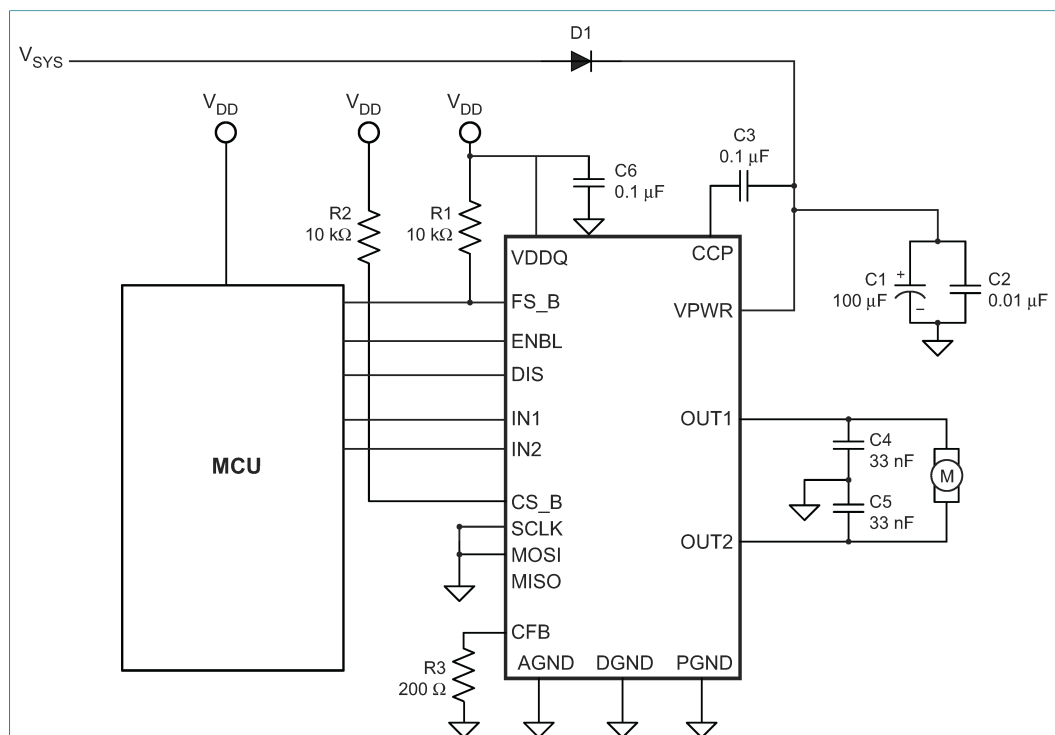
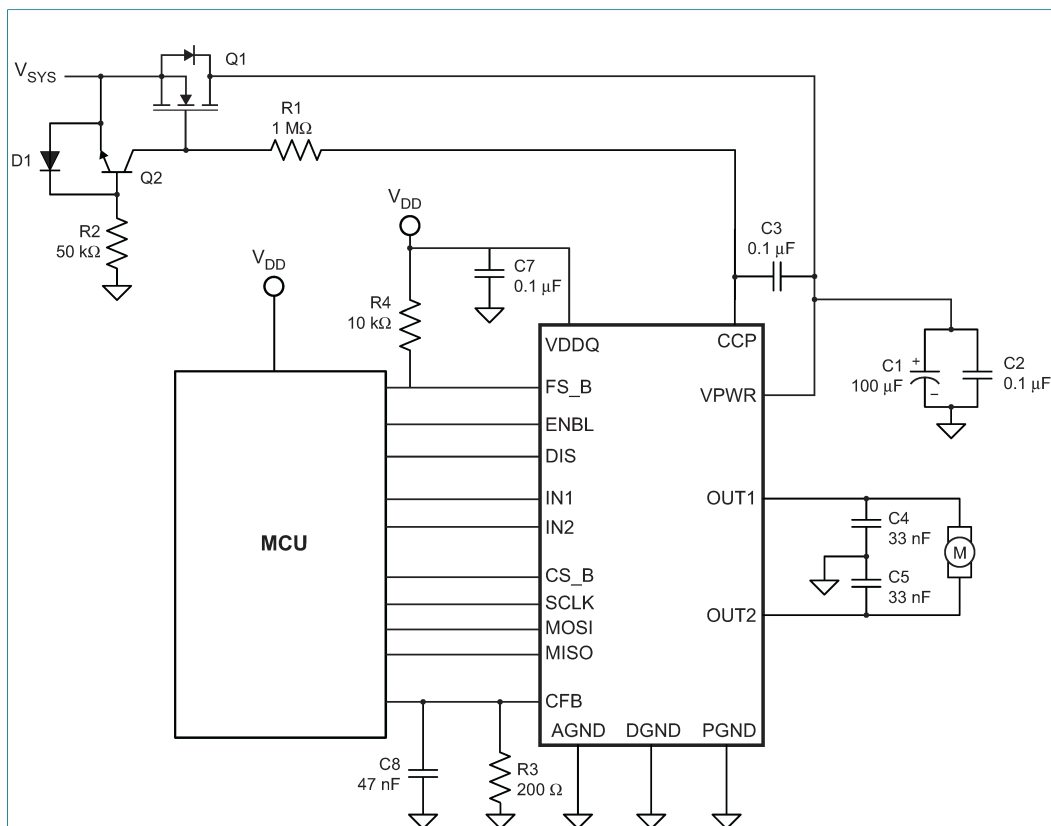

Figure 21. Simplified minimum application schematic (Reverse battery protection using a diode and operation without SPI)
Figure 22. Simplified typical application schematic (Reverse battery protection with an external inverted N-channel MOSFET and operation with SPI)
3.0 A and peaks over 10.0 A. Figure 21 shows a typical simplified minimum application schematic without SPI interface to MCU and reverse battery protection through a diode. Figure 22 shows a typical simplified application diagram with reverse battery protection using an external N-channel FET driven by the CCP pin. This is useful for low battery voltage applications where diode drops could be significant. See Section 8.3.1 "Reverse battery" for details on reverse battery protection.